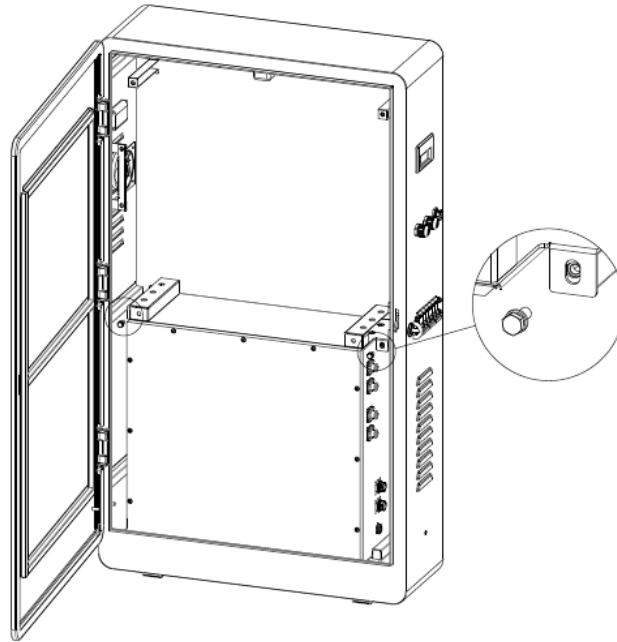

Figure 7 Example of installation diagram of single battery system into a cabinet
- As shown in Figure 7, put the battery system into the cabinet, and fix it with six M6 x 12mm external hexagon combination screws. The cabinet should have suitably aligned holes to facilitate fastening.